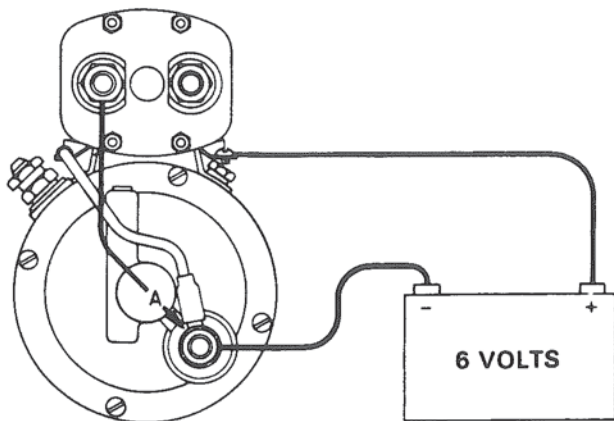

Figure 14. Pinion Position Test.
1. Connect a 6 volt battery to starter and solenoid. Figure 14.